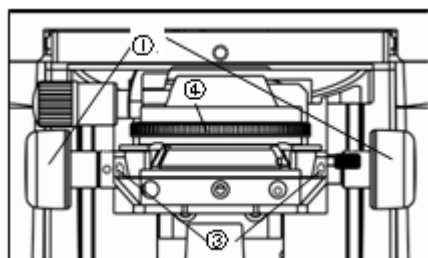
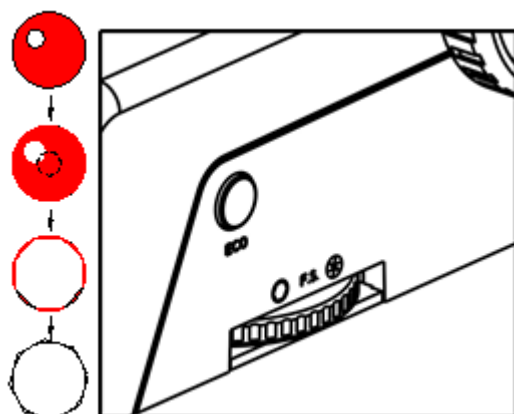

Fig 11
Fig 12
3.10 Adjust The Pendulum Type Condenser (fig 11, fig 12)
- Rotating the focusing handwheel of condenser①, condenser will move up and down. when using high power objective, condenser will up. When using low power objective, condenser will move down.